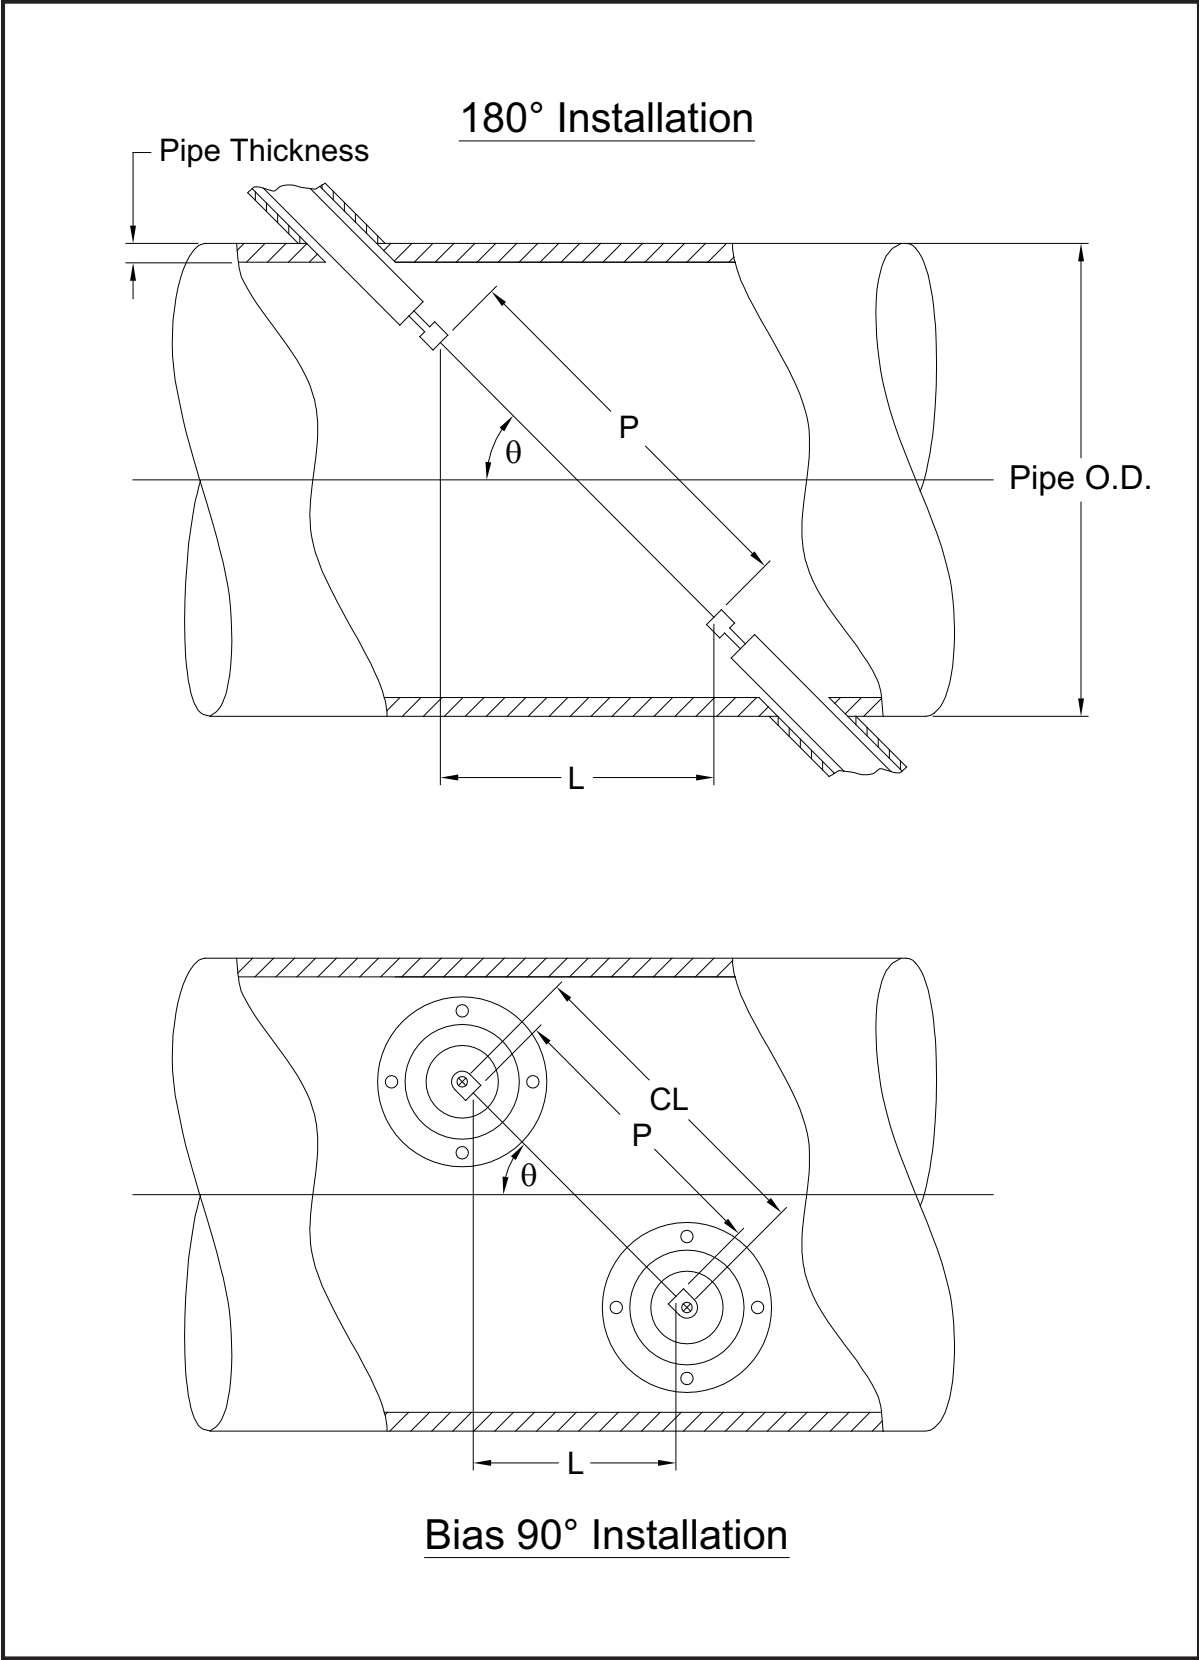

Figure 22: Top View of Typical Transducer Installations
The accuracy of the programmed P and L values is critical to precise flow rate measurements. If GE supplies the flowcell for the system, the correct values will be included in the documentation supplied with the system. For transducers installed on an existing pipe (see Figure 22 on page 68), P and L must be measured at the site. This appendix provides instructions for properly determining these dimensions.
Whenever possible, physically measure the face-to-face distance (P) and the axial distance (L) between the centers of the flat faces of the transducers. Refer to Figure 22 on page 68 for an illustration of the proper distances to measure, in a typical installation.
With a Bias 90° transducer installation, it sometimes happens that the only known parameters are the transducer angle (θ) and the centerline distance between the transducer bodies (CL). In these cases, it is still possible to calculate P and L by combining Equation C-1 above with the additional Equation C-2 below (see Figure 22 on page 68):